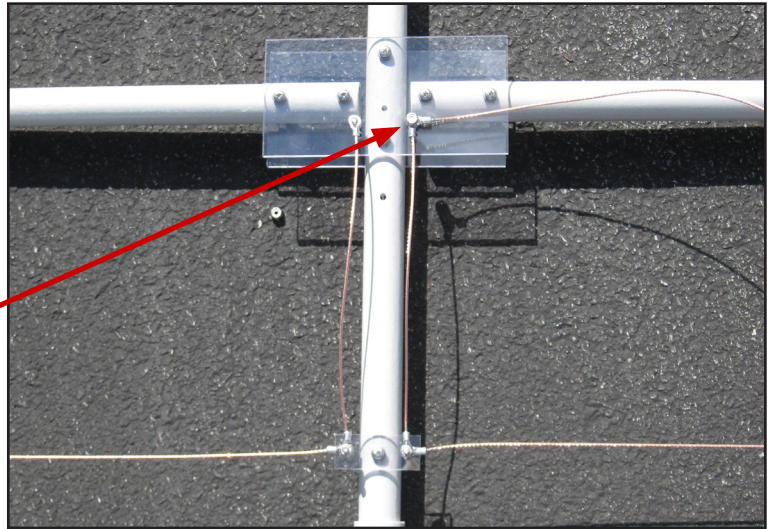

Fig. 82
- Select one (1) of the two (2) Wire Assemblies that is labeled **20D**. This is a 20 M Driven Element. Carefully unwrap the wire bundle. Note that the wire is folded back upon itself at one end. This is the outside end of the element. Connect the ring terminal on the other end of the wire and position it at the terminal plate as shown in Fig. 82. Remove the 10-24 SS Anti-vibration Hex Nut, place the ring terminal over the machine screw and replace the Hex Nut. Tighten well.